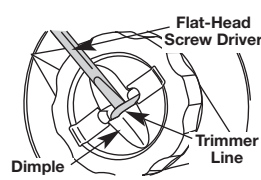

Fig. 13
2. Using a flat-head screwdriver, insert the tip into the line dimple and just under the exposed portion of the line (Fig. 13)